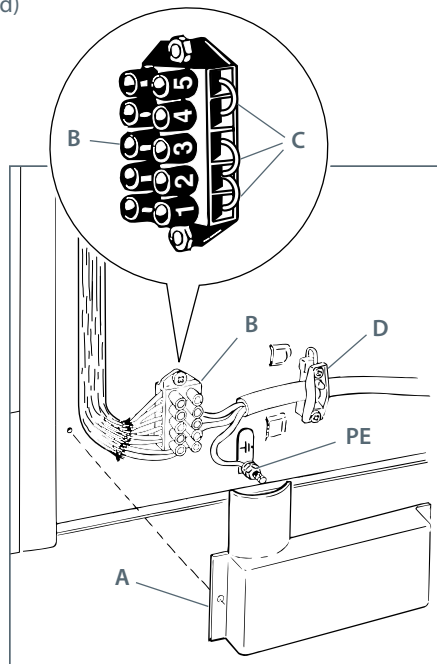

Fig. 19b
- 1 Remove the screws that hold cover "A" behind the cooker (Fig. 19b).